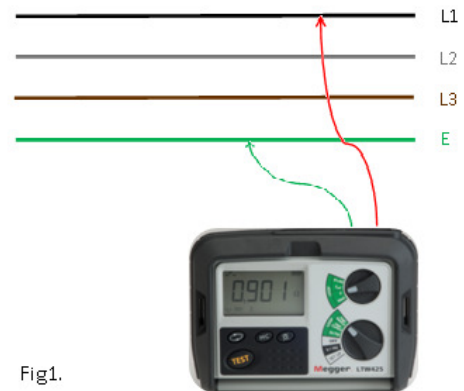

Fig1.
3 wire supplies can be identified by the 4 cables connected to the socket (3 phases and an earth/cpc, hence 3P+E). 3 wire supplies are used to supply balanced loads such as a motor. To measure the earth loop impedance a two wire test must be used and the leads should be connected in the manner shown below (Fig1). A 3 wire loop test would not be suitable as it requires a neutral connection which is not available in this configuration.
Testing a three phase RCD would use the same connection method as for a 2 wire earth loop impedance measurement (shown in Fig1), connecting the earth socket of the tester to the cpc of the system (E) and the live socket of the tester should be connected to each of the lines in turn so that the trip time can be measured for each phase in turn.